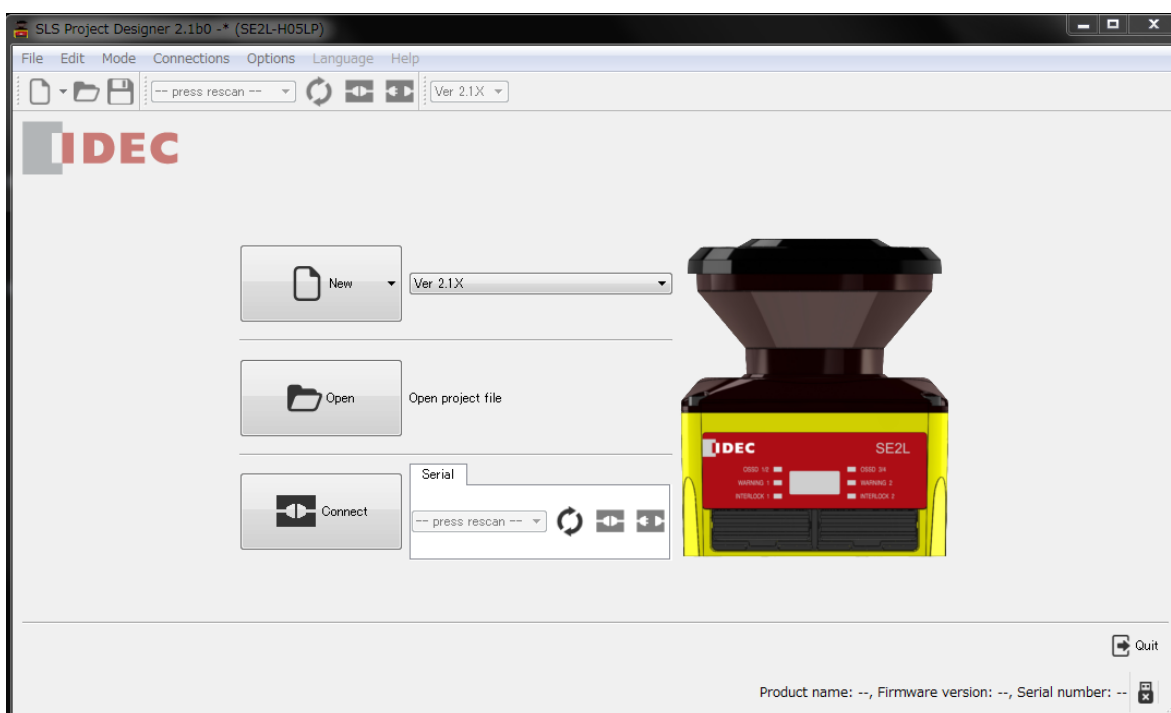

Figure 7-17 Main window
- Main window as shown in figure 7-17 will be displayed when SLS Project Designer starts.